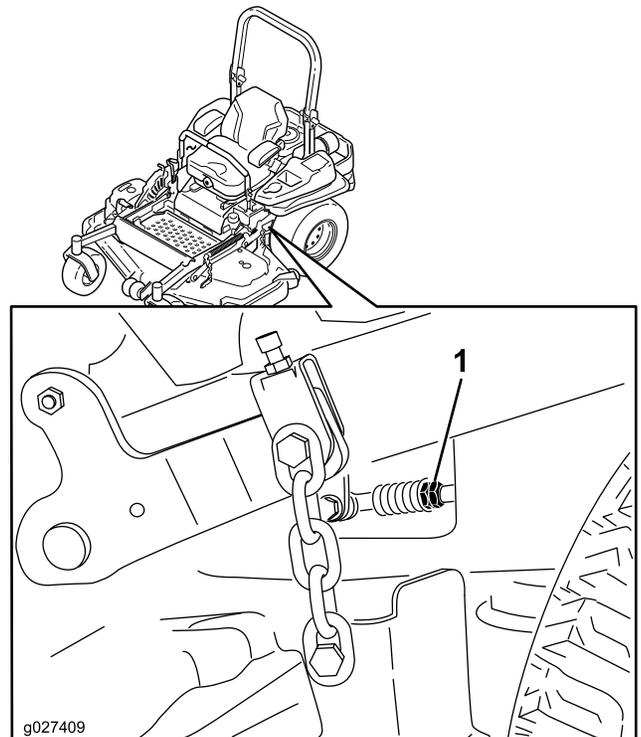

Figure 91
10. Adjust the pump-control-rod lengths by rotating the double nuts on the rod in the appropriate direction until the wheels slightly creep in reverse (Figure 91).